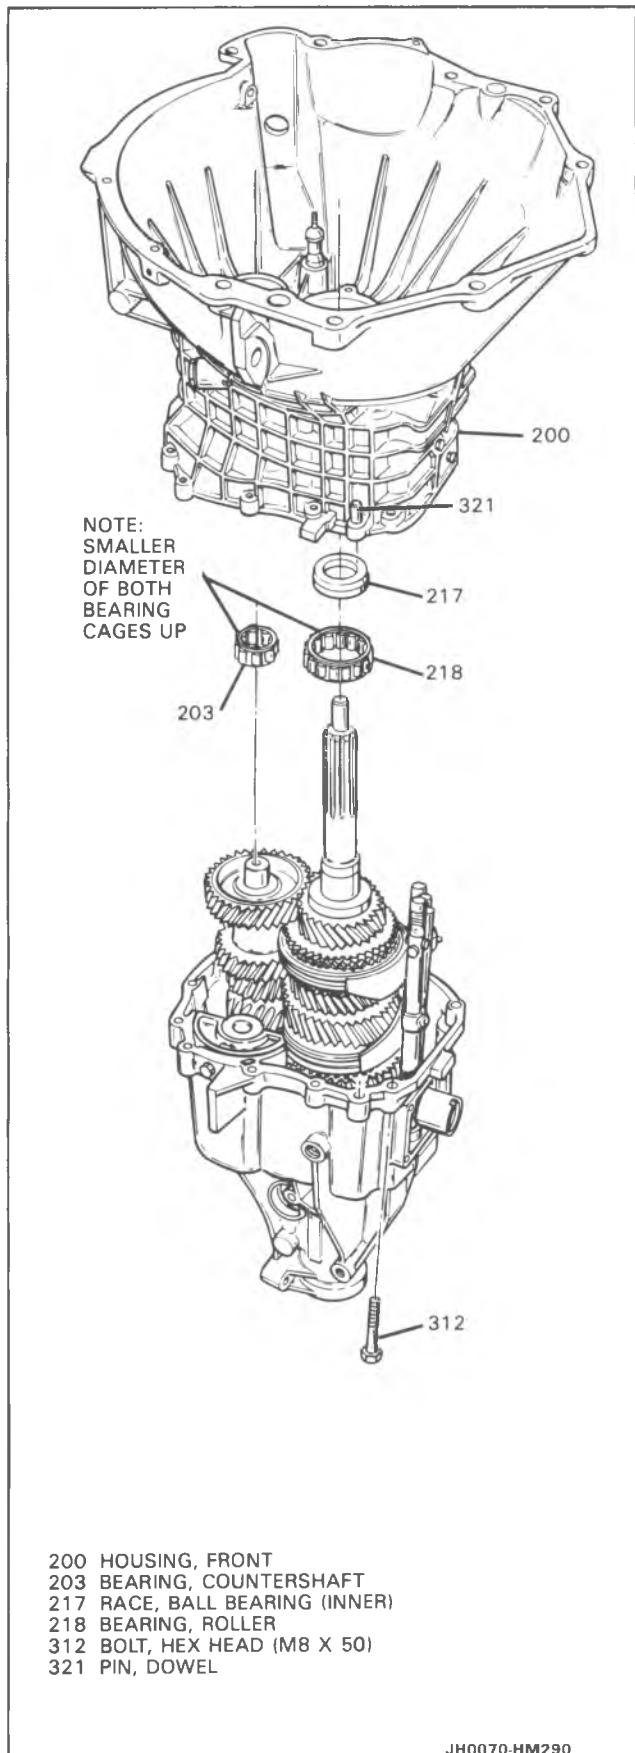

Figure 96 Front Housing Install
12. Countershaft bearing (203) (Figure 96).
- Install in bearing race (202) of the front housing.